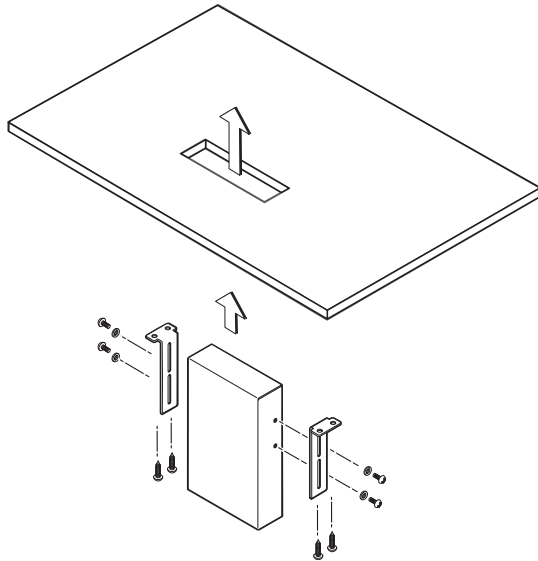

Figure 2-4 — Attaching the through desk brackets
1. Attach the mounting brackets to the SCS 300 using four machine screws and washers supplied with the mounting kit, as shown in figure 2-4.
4. Using the four supplied wood screws, attach the brackets to the mounting surface (see figure 2-4).